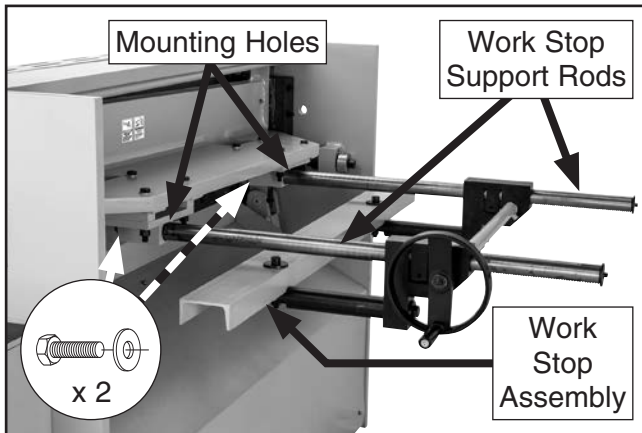

Figure 16. Rear work stop assembly mounted to upper blade frame.
1. With help from another person, lift rear work stop assembly and place support rods in mounting holes on upper blade frame (see **Figure 16**). Secure with (2) M16-2 x 25 hex bolts and (2) 16 x 44 x 6mm dock washers.